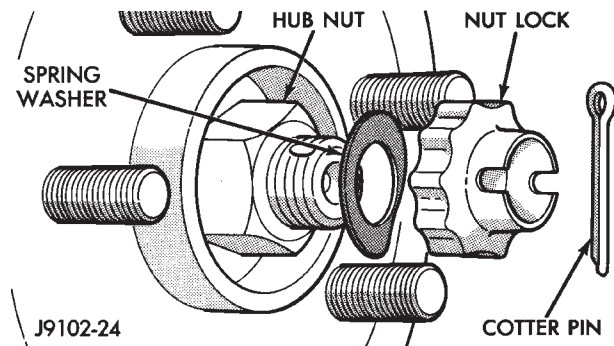

Fig. 2 Cotter Pin, Nut Lock & Spring Washer Removal
(1) Remove the cotter pin, nut lock, and spring washer from the stub shaft (Fig. 2).